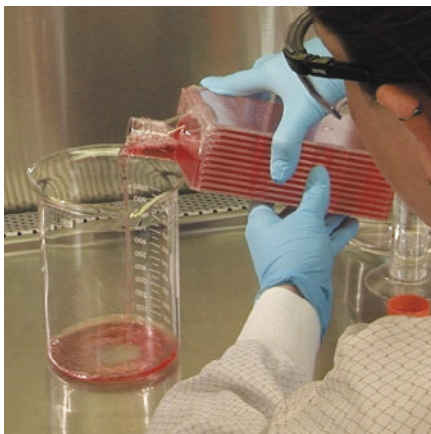

Figure 5. This initial pouring position allows medium to flow over the air dam and reduces foaming.
1. Remove the cap and initially tilt the flask so that the medium is pouring over the air dam into a waste container (Figure 5). This means that the flask is initially being poured upside down with the angled portion of the neck and the bar code surface facing up. While pouring, slowly rotate the flask 180° until the medium is flowing down the angled neck of the flask. Carefully adjust the pouring angle to avoid excessive bubbling and foaming.